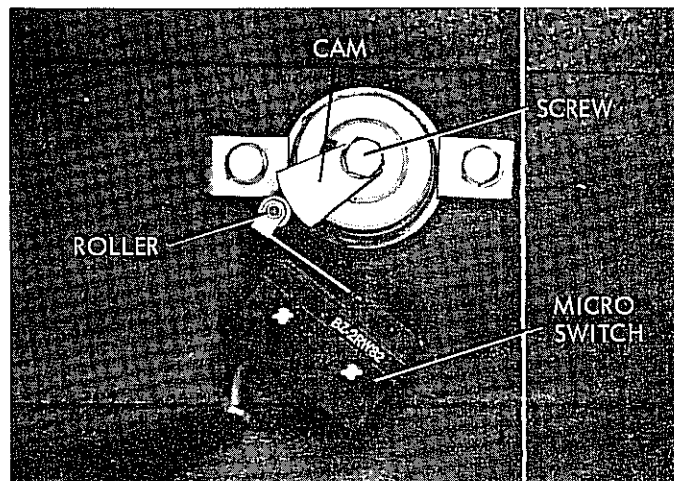

Figure 39. Micro Switch Roller and Motor Timing Cam Alignment for Models 14108, 14208, 14408, 14114, 14220, and 14420
4. Loosen screw (figure 39) and position center of cam on micro switch roller. Tighten screw.